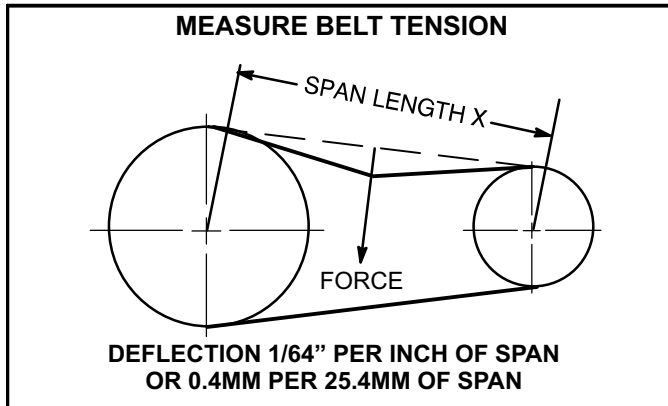

FIGURE 13
1. Measure span length X. See figure 13.
2. Apply perpendicular force to center of span (X) with enough pressure to deflect belt 1/64" for every inch of span length or 0.4mm per 25.4mm of span length.